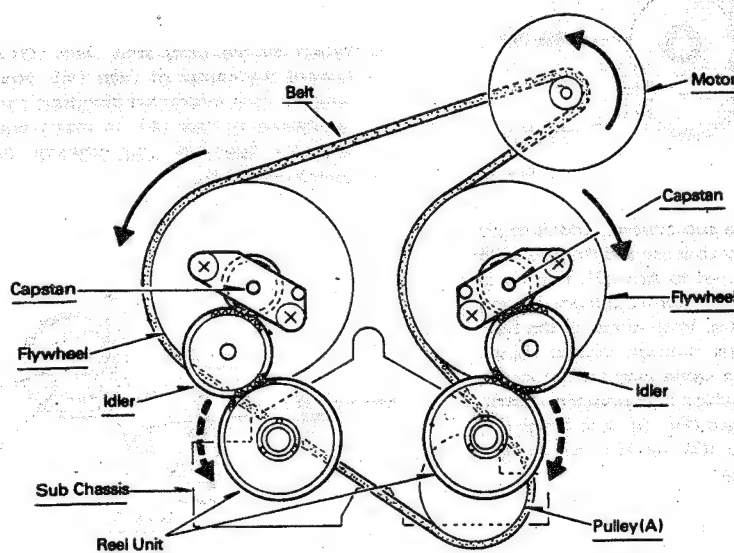

Fig. 6
• Tape tightening mechanism (Fig. 6)
1. The Flywheel and Pulley (A) are Belt driven by the Motor. The Reel Units are each driven by the gear connected to the Flywheel through the Idler. As seen in Fig. 6, the Capstan always rotates in the arrowed direction.